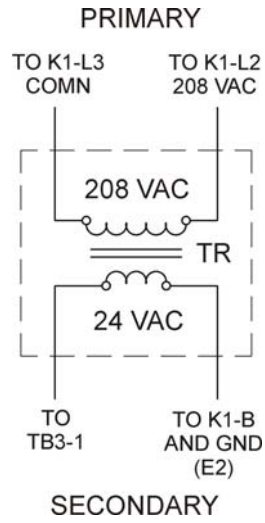

Figure 1. Transformer Continuity Check
1. Using a multimeter set on lowest OHMS scale, check for continuity across primary terminals COMN and (208 Vac). Continuity should be indicated. See figure 1.